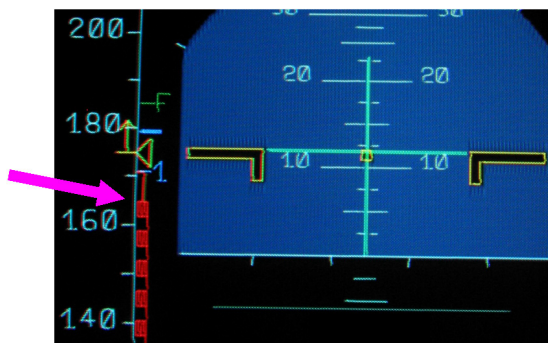

Figure 2
- The speed symbol on the PFD speed scale (depending on the aircraft type) goes below the stick shaker speed displayed as a red and black strip (**Figure 2**)